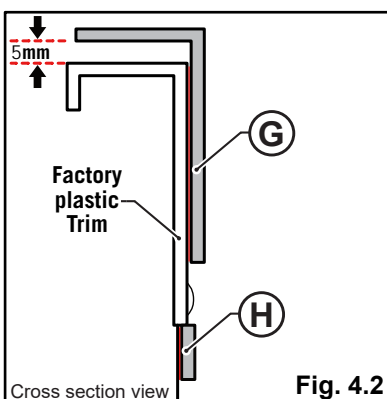

Fig. 4.2
- Align and mark the section to stick on the Front Rail. Remove red backing tape and carefully stick the Front Rail (G), leaving a 5mm gap as shown in Fig. 4.2